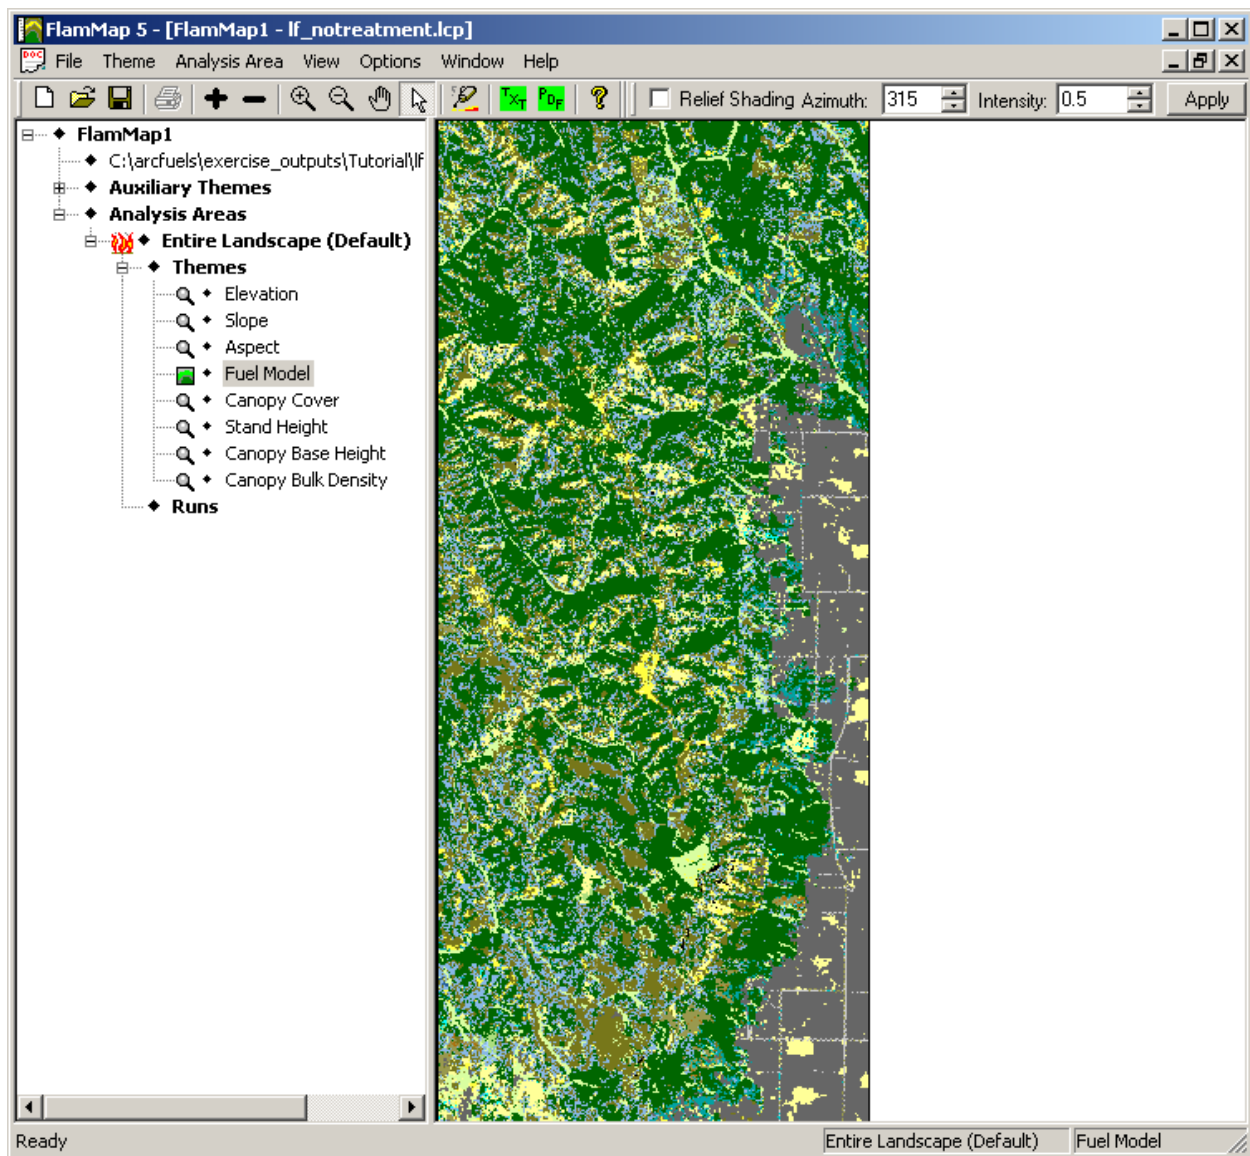
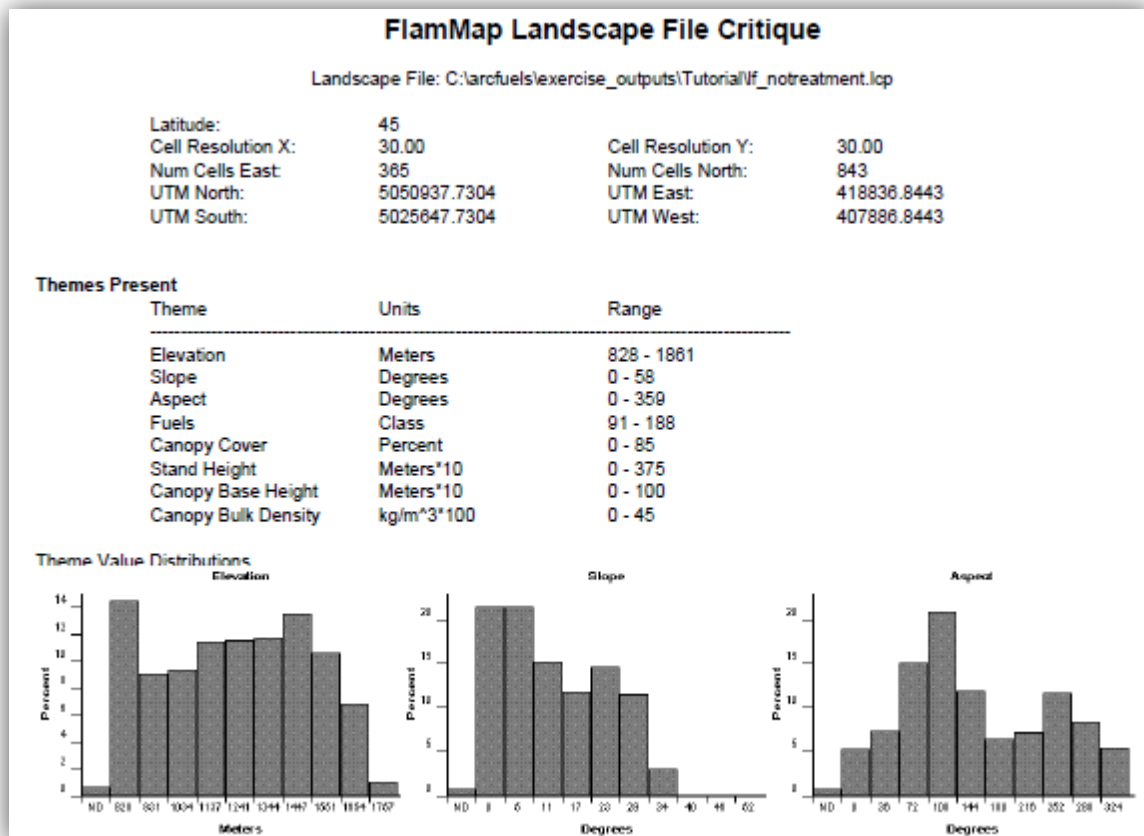

Figure 4-10—No treatment alternative LCP loaded with the fuel model theme displayed.
Figure 4-12— PDF LCP critique.
- a) Notice there are now more sections in the tree pane (fig. 4-10). The Themes section includes all the layers within the loaded LCP file. FlamMap 5 automatically expands this section and has the fuel model layer displayed. The layer shown in the display pane is the active theme selected, which is indicated by the landscape icon to the left of the name; the non-active themes have a magnifying glass to the left. To change the active theme, click on the magnifying glass or name of the theme to display.
- 3) To create a text file critique of the LCP, click the green **TEXT** button on the FlamMap toolbar (fig. 4-10). The text file includes information about the extent and resolution of the LCP, the themes present with their units and ranges, a distribution of each theme, and fuel model specific distributions of the remaining themes (fig. 4-11).
- 4) To create a PDF critique of the LCP, click the green **PDF** button on the FlamMap toolbar (fig. 4-10). The PDF includes information about the extent and resolution of the LCP, the themes present with their units and ranges, histograms of the themes comprising the LCP, maps of each theme with a legend, and histograms of the remaining themes for each fuel model (fig. 4-12).